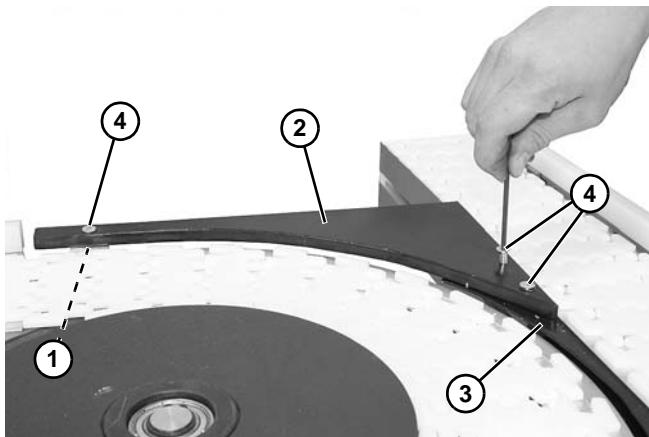

Figure 27
13. Install one angle support (**Figure 27, item 1**) to conveyor with one M8 x 20 mm stud and hex nut. Do not tighten hex nut at this time.
14. Install entrance wedge guide (**Figure 27, item 2**) to angle support and conveyor tie plate (**Figure 27, item 3**) with three flat head screws (**Figure 27, item 4**).